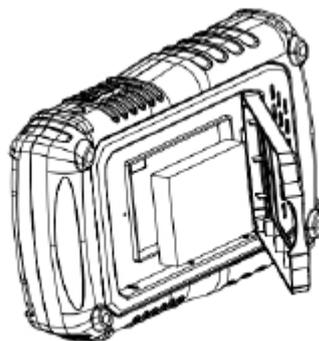

Figure 3
3. Place the battery in position and close the cover. As shown in figure3.